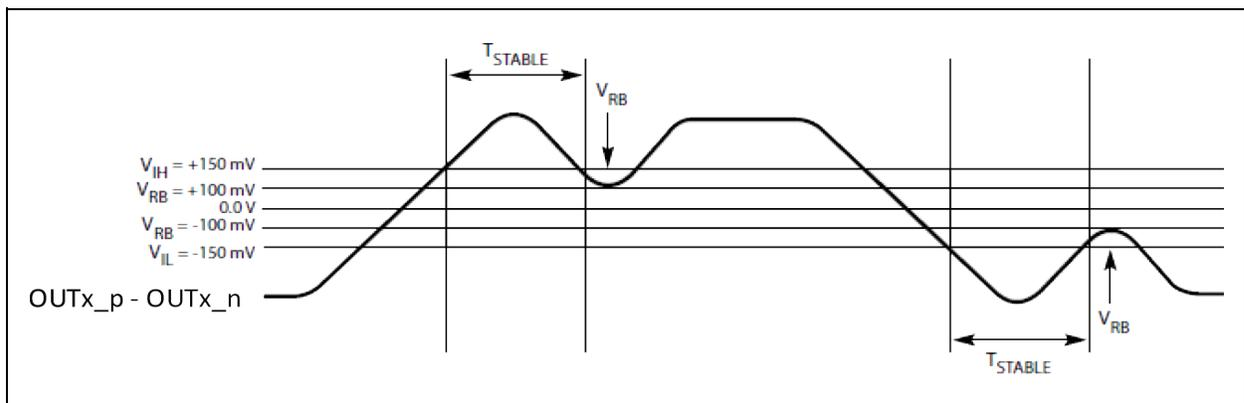

FIGURE 3-5: Differential Measurement Points for Ringback.
- 12:** The t_{STABLE} is the time the differential clock must maintain a minimum ± 150 mV differential voltage after 20 rising/falling edges before it is allowed to droop back into the $V_{RB} \pm 100$ mV differential range. See Figure 3-5.